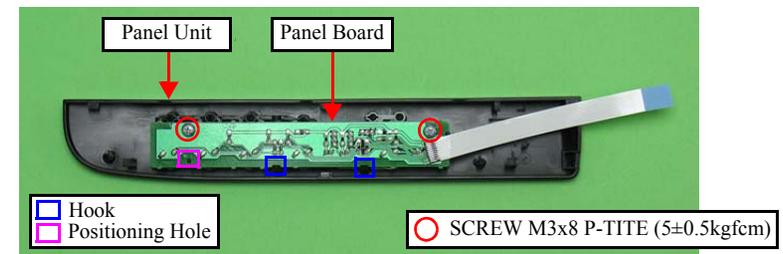

Figure 4-19. Removing the Panel Board
- When installing the Panel Board, align the positioning hole of the Panel Board with the dowels of the Panel Cover. (See Fig.4-19)